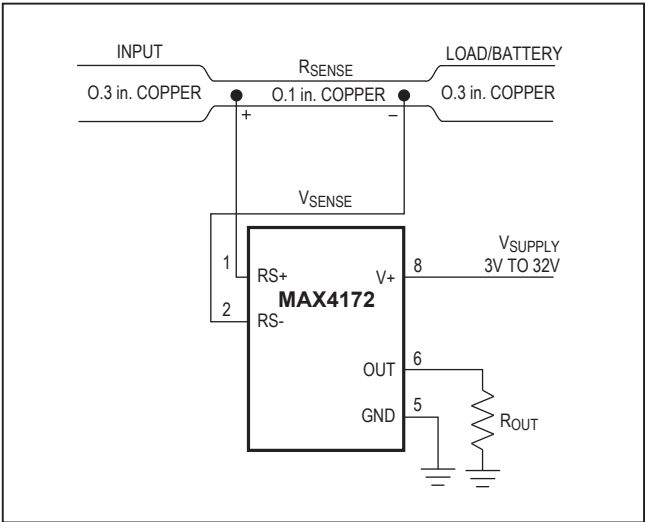

Figure 2. MAX4172 Connections Showing Use of PC Board
- **Cost:** If the cost of RSENSE is an issue, you might want to use an alternative solution, as shown in Figure 2. This solution uses the PCB traces to create a sense resistor. Because of the inaccuracies of the copper resistor, the full-scale current value must be adjusted with a potentiometer. Also, copper’s resistance temperature coefficient is fairly high (approximately 0.4%/°C).
In Figure 2, assume that the load current to be measured is 10A, and that you have determined a 0.3-inch-wide, 2-ounce copper to be appropriate. The resistivity of 0.1-inch-wide, 2-ounce (70μm thickness) copper is 30mΩ/ft. For 10A, you might want RSENSE = 5mΩ for a 50mV drop at full scale. This resistor requires about 2 inches of 0.1-inch-wide copper trace.